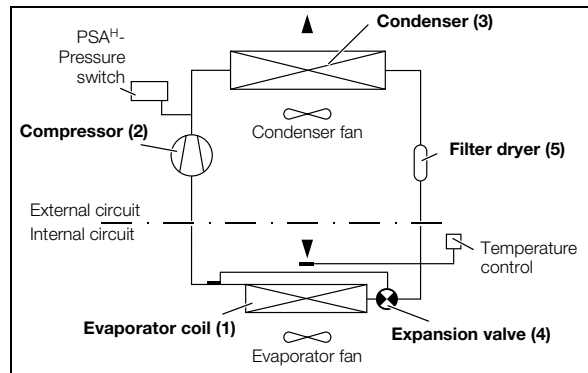

Fig. 3: Cooling circuit
The cooling unit (compression refrigeration system) comprises four main components (see fig. 3): the evaporator (1), the refrigerant compressor (2), the condenser (3), and the control or expansion valve (4), which are connected by suitable pipework. This circuit is filled with a readily boiling substance, the refrigerant. The refrigerant R134a (CH₂FCF₃) is chlorine-free. Its Ozone Depletion Potential (ODP) is 0, making it very eco-friendly. A filter dryer (5) which is integrated into the hermetically sealed cooling circuit provides effective protection against moisture, acid, dirt particles, and foreign bodies within the cooling circuit.